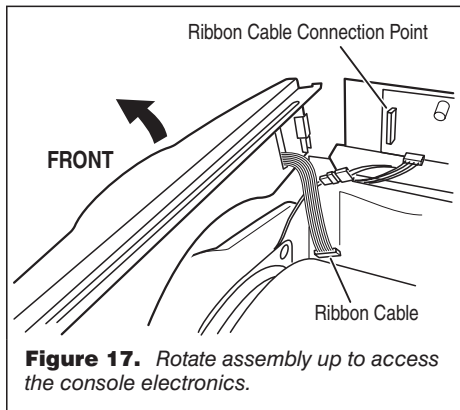

**Figure 16.** Rotate assembly up to access the machine control circuit board.
2. As you remove the assembly from its mounting position, rotate the assembly up to access the machine control circuit board, and set it on the side panel. See figure 16.